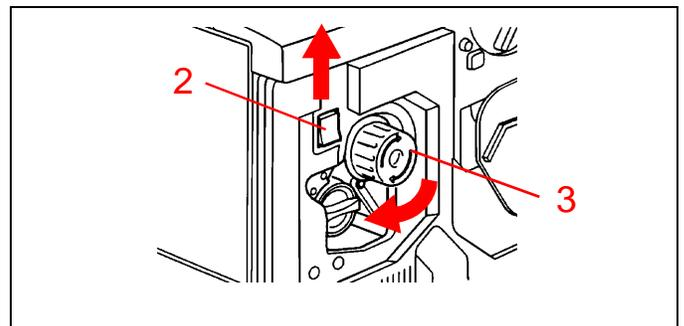

Figure 23
2. See Figure 23. If the cartridge to be replaced is not at the cartridge window, push the anti-rotation switch up to release the lock.